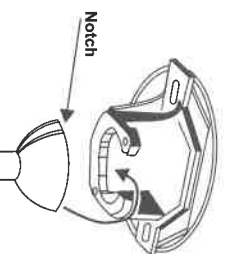

Fig. 7
Step 6. Lift motor/housing assembly and place hanging ball onto hanger bracket. Rotate until the check groove has dropped into the notch of the hanging ball and seats firmly. (Fig. 7)